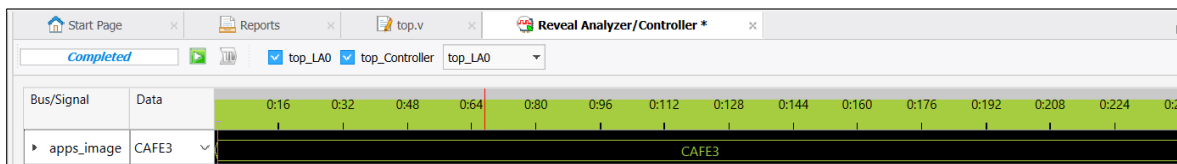

Figure 7.10. apps_image Showing CAFE3
- b. Run Reveal Analyzer and the apps_image displays CAFE3. LED D3, D4, and D5 are blinking, indicating that Alternate Pattern 3 is currently running on the board (Figure 7.10).